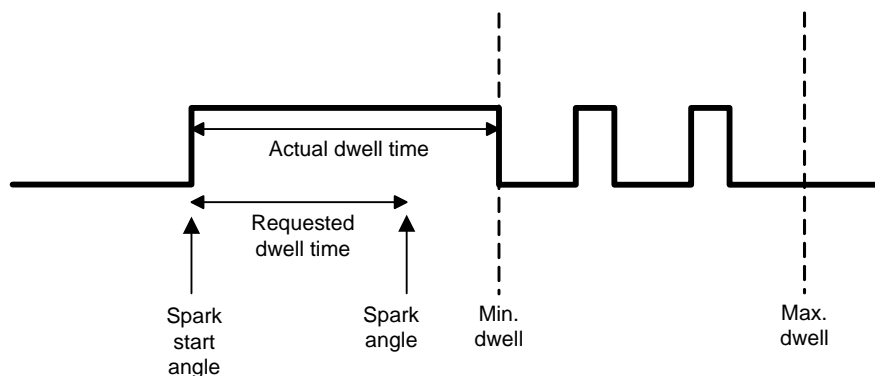
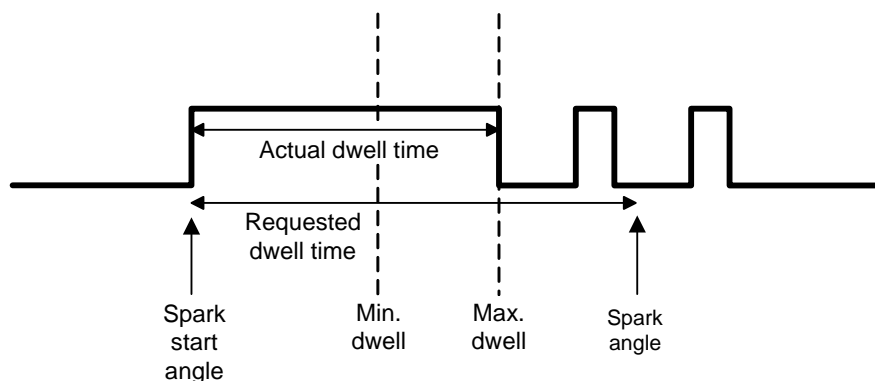

Figure 2. Minimum dwell — Spark pulse extended to meet minimum dwell requirement
Figure 3. Maximum dwell — Spark pulse truncated to meet maximum dwell requirement
- Min_Dwell — Defines the minimum width of a main spark pulse. See Figure 2.
- Max_Dwell — Defines the maximum width of a main spark pulse. See Figure 3.
Figure 2 and Figure 3 show the effect of the Min_Dwell and Max_Dwell parameters on the generation of spark pulses.